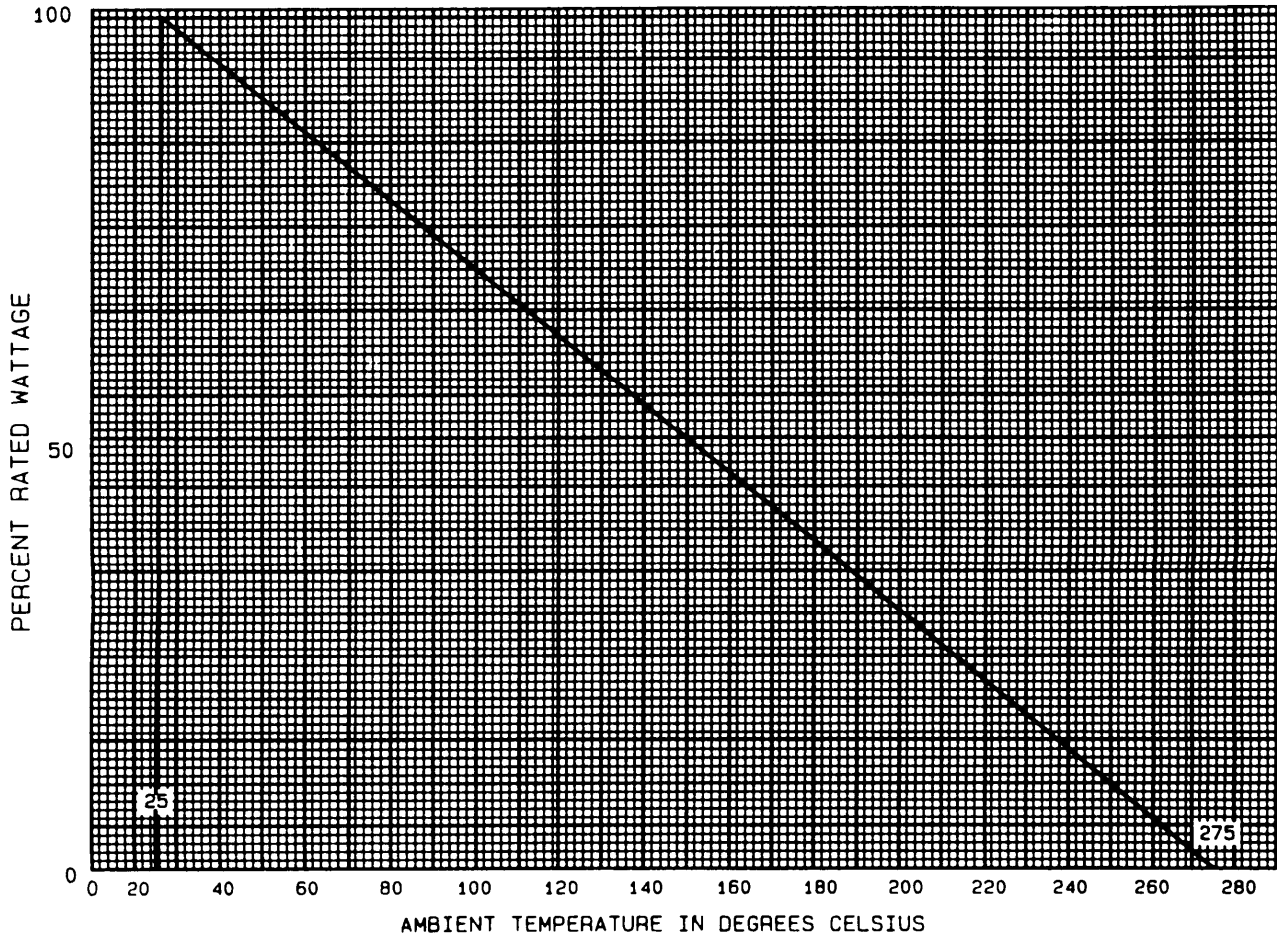

FIGURE 103-1. Derating curve for high ambient temperature.
2.1.2 Power rating. These resistors have a power rating based on continuous, full-load operation at an ambient temperature of +25°C and with a specified chassis area. If the resistors are to be operated at temperatures exceeding +25°C, the resistors must be derated in accordance with figure 103-1. (See 2.1.3 for chassis area debating.)